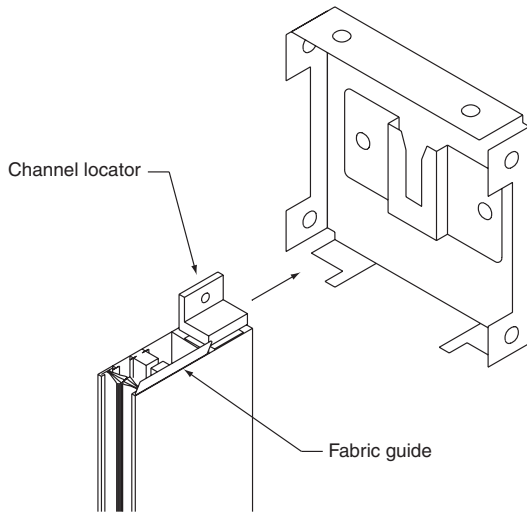

Figure 6
⑤ Install side channels (*NOTE: Insure side channels, headbox, and sill channel are square*).
A. Install channel locator and fabric retainer in the top of each side channel then slide into place (see Fig. 6).